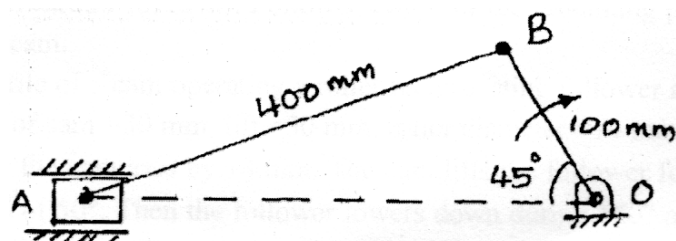

Fig.Q.3.c
- c. Locate all the instantaneous centres of the slider crank mechanism as shown in Fig.Q.3(c). The length of crank OB and connecting rod AB are 100 mm and 400 mm respectively. If the crank rotates clockwise with an angular velocity of 10 rad/s. Find;